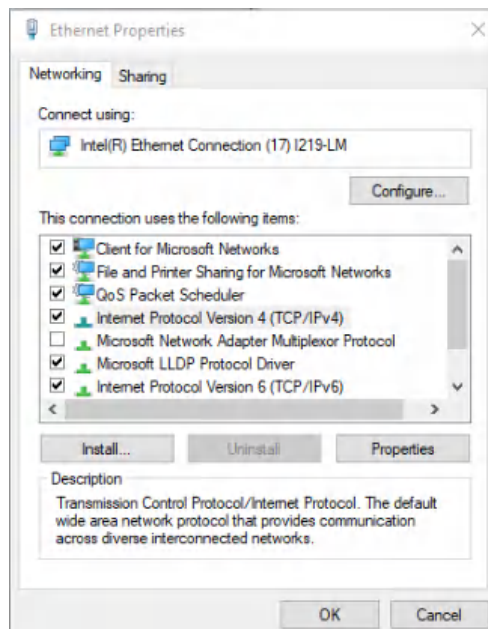

Figure A-5. Opening the IPv4 Properties
5. After that a window as shown in Figure A-5 will open. Double click the “Internet Protocol Version 4 (TCP/IPv4)” option to open its “Properties” tab.